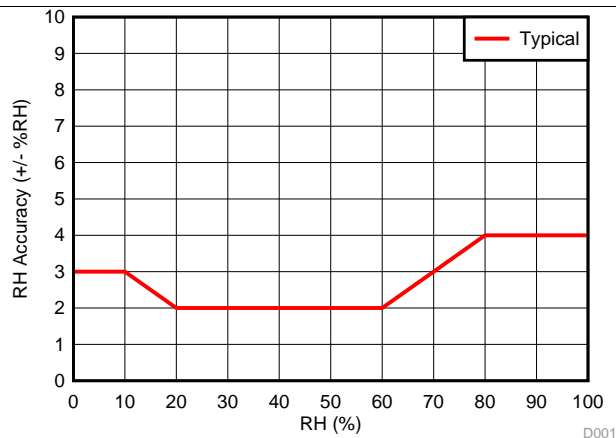

Figure 2. RH Accuracy vs. RH
- (1) See Figure 2.
| RH_{ACC} Accuracy | Refer to Figure 2 in Typical Characteristics section. | | ± 2 | | %RH |